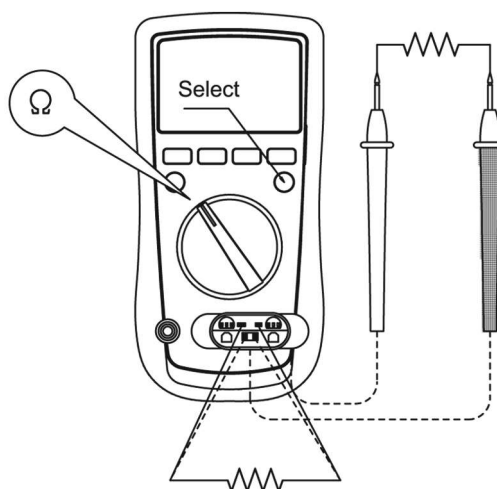

figure 4
C. Measuring Resistance (See figure 4)